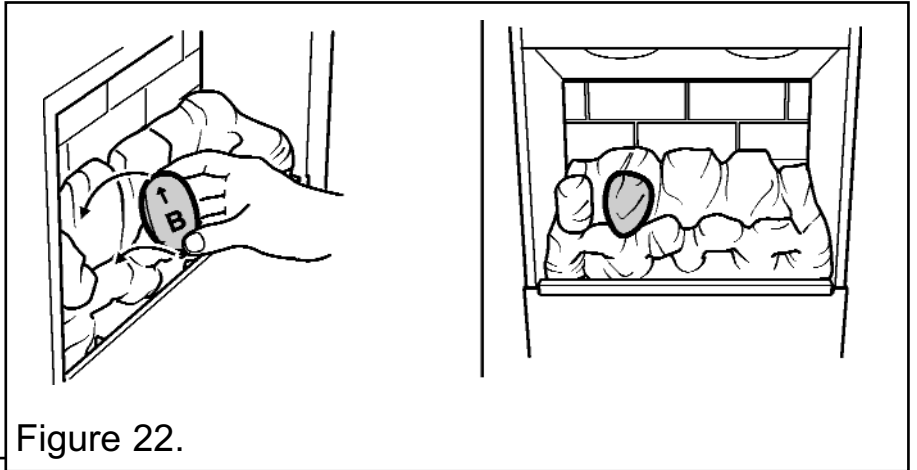

Figure 22.
3. Hold coal 'B' upright with the arrow pointing to the top. Locate coal 'B' as shown in figure 22.